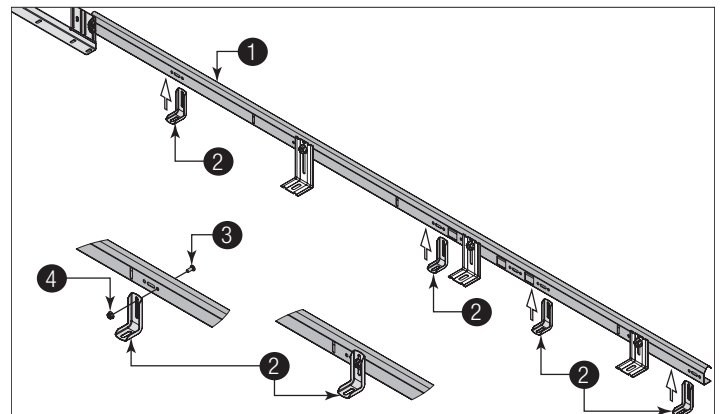

Figure 10, Left Side Shown
**See Figure 10 for the following steps.**